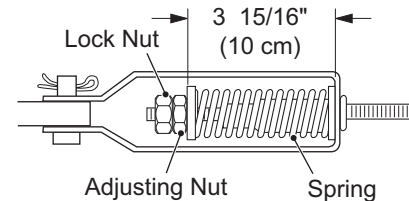

Figure 12 Equalizer and Compensator
6. **Inspect the brake cable equalizer linkage.** Inspect for corrosion, damage, wear or excessive misalignment (Figure 12). Replace the cable if corrosion, damage, or wear is found.
7. **Inspect the compensator assembly.** Inspect for damage, corrosion or wear; replace complete assembly if present. In general, adjustment will not be necessary, as the spring assembly is factory calibrated. With the parking brake disengaged, check that the compensator spring length is 3-15/16" (10 cm) (Figure 12). If an adjustment is required, it must be made using the nuts towards the front of the vehicle. Tighten the lock nut after your are finished adjusting the compensator assembly.